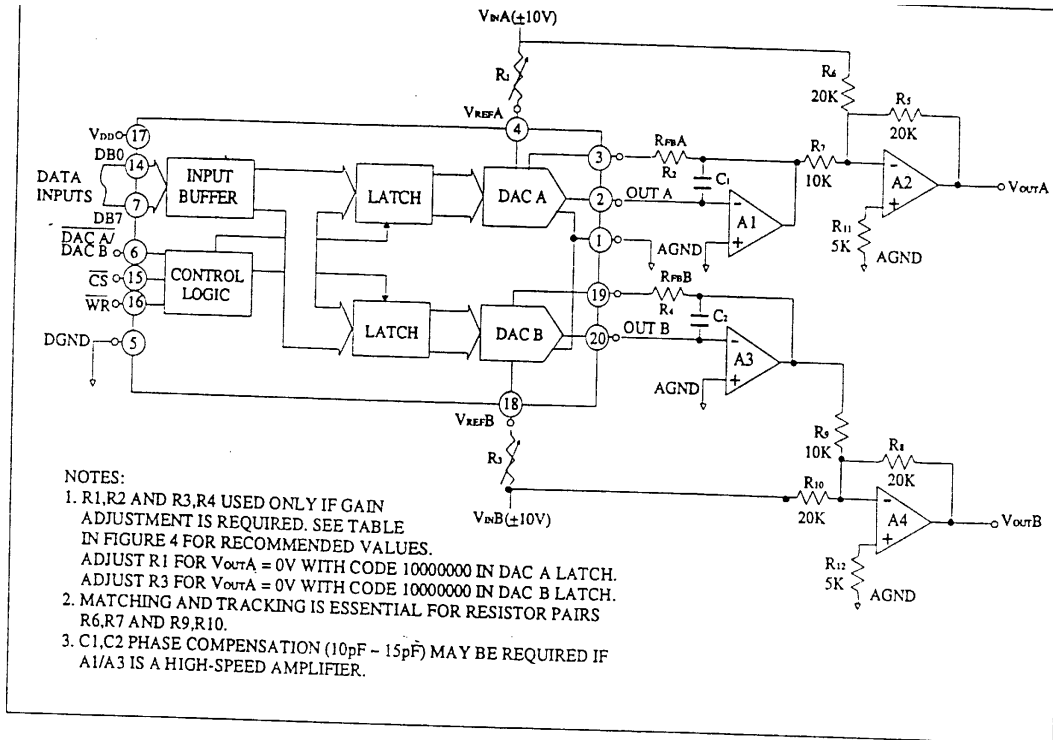

Figure 5. Dual DAC Bipolar Operation (4 Quadrant Multiplication). See Table 2.
For bipolar output operation connect the ES 52110 as shown in Figure 5. This circuit configuration provides an offset current, derived from the reference to enable the output op amp to swing in both polarities. The digital input coding becomes offset binary. Table 2 provides some example analog outputs for various digital inputs (D). The transfer equation for bipolar operation is $V_{OUT} = V_{IN} \times (D/128 - 1)$, where D is the decimal value of the data bit inputs DB0 thru DB7. This circuit provides full four-quadrant multiplication able to accept both polarities on all input as well as the circuit output.